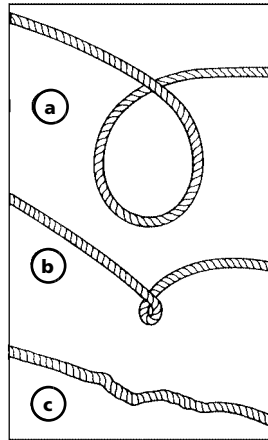

Figure 6
3. Prevent kinks before they occur. (See Figure 6)